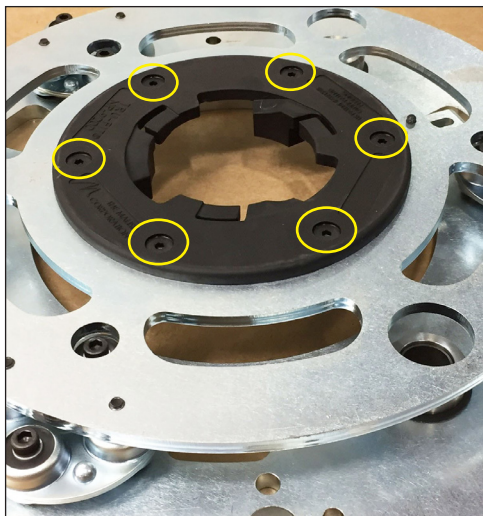

FIG. 3
2. Remove the (6) screws (P/N 74620) using a 4mm Allen wrench (see Figure 3).